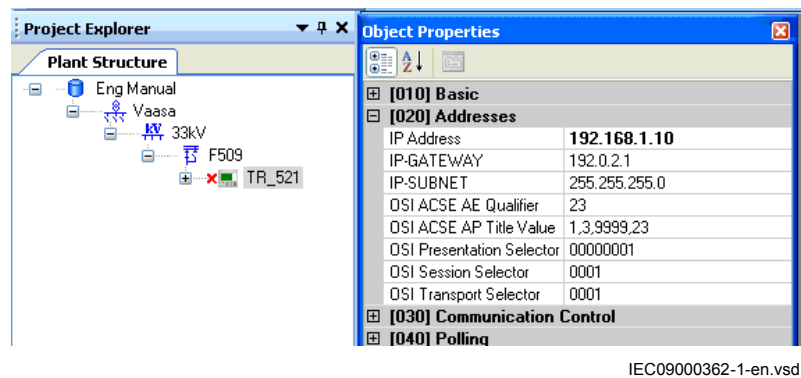

Figure 22: Alternative 2: IP address via IED Object Properties window
- Via the IP address property of the IED in the *Object Properties* window, see Figure 22.